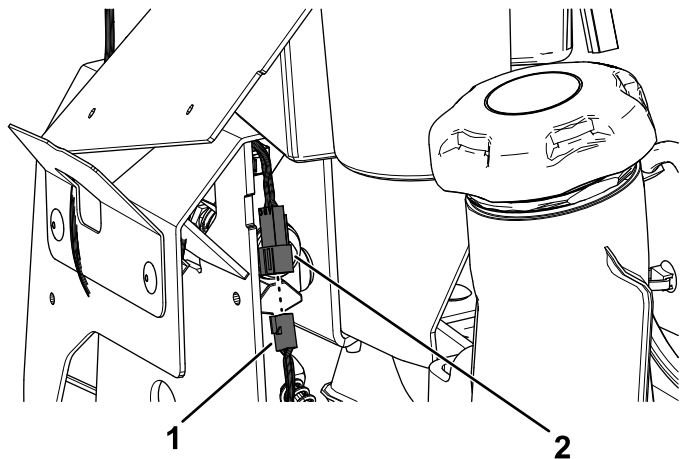

Figure 17
- Connect the kit wire harness connector to the new left motion-control lever connector (Figure 17).